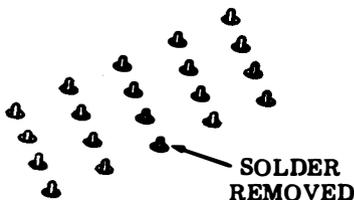

Fig. 20—Connector Pins
- (c) Remove solder from around connector pins of cable to be removed (Fig. 20).